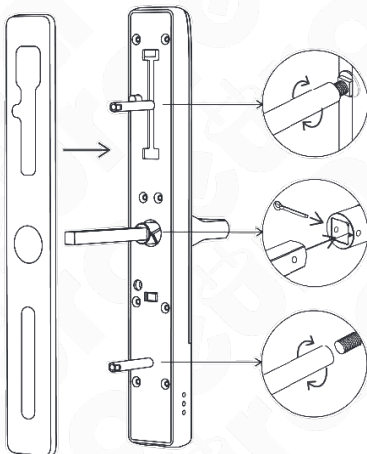

Fig. 11.
1. According to Fig. 11, install the rubber washer and screw the mounting sleeves (two types of sleeves are included and should be selected according to the door thickness) onto the front body of the handle.